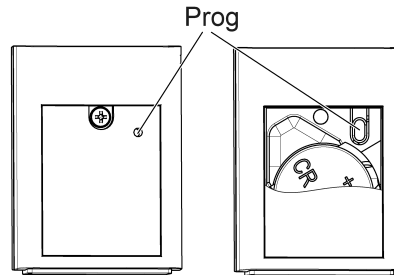

Figure 3: Button **Prog**
The **Prog** (Figure 3) button can be pressed with a thin wire or paper clip through the hole in the battery cover.
- Press the **Prog** (Figure 3) button for longer than 4 seconds.